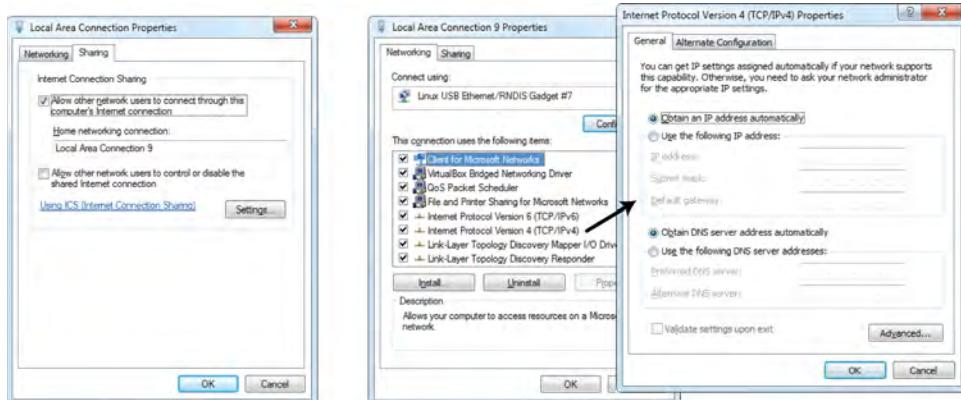

Figure 2-3: Configuring the Network Connection Sharing Properties under Windows
2. In the dialog that appears, as shown on the left-hand side of Figure 2-3, click the Sharing tab at the top and enable the option Allow other network users...
5. Double-click Internet Protocol Version 4. In this dialog, select Obtain an IP address automatically and enable Obtain DNS server address automatically (see Figure 2-3 on the right-hand side).